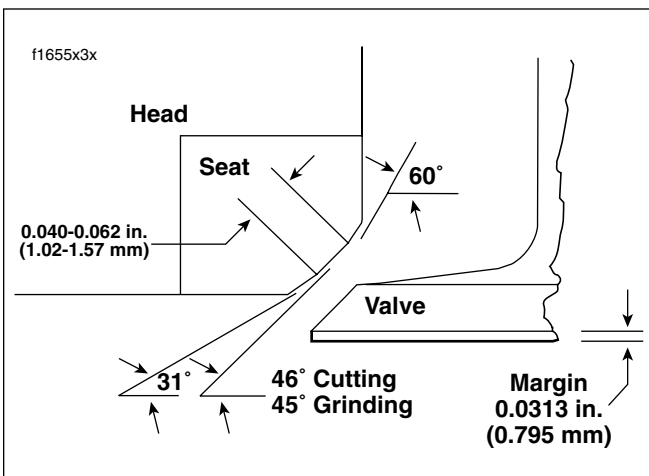

Figure 3-26. Valve Seat Angles
11. See Figure 3-26. Inspect the contact pattern on the valve seat to be sure area is 0.040-0.062 inch (1.02-1.57 mm) wide and contacts the valve two-thirds of the way towards the outer edge of the valve face. If necessary, modify the seat pattern as follows: